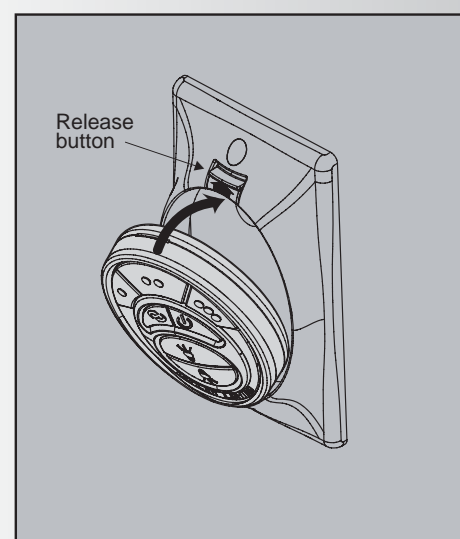

Fig. 28
1. To place the transmitter in the wall plate, put the bottom end in first and then press the top into the wall plate. The transmitter is now held in the wall plate and will function from here. (Fig. 28)